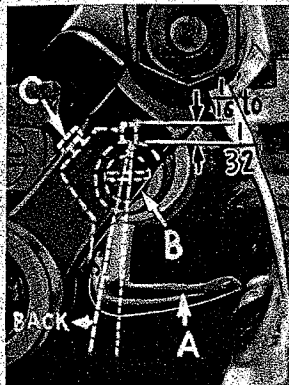

Fig. 8
Insert upper looper (A, Fig. 8) in its holder. Screw (B) holds upper looper in its holder and permits it to be pushed in or out or turned around its shank. Insert upper looper holder into upper looper shaft (if not already in place).
Screw (C) on the clamp holds the upper looper holder in the shaft. Locate upper looper in its holder so that the shank extends  $1/32$  to  $1/16$  inch beyond holder (Fig. 8).